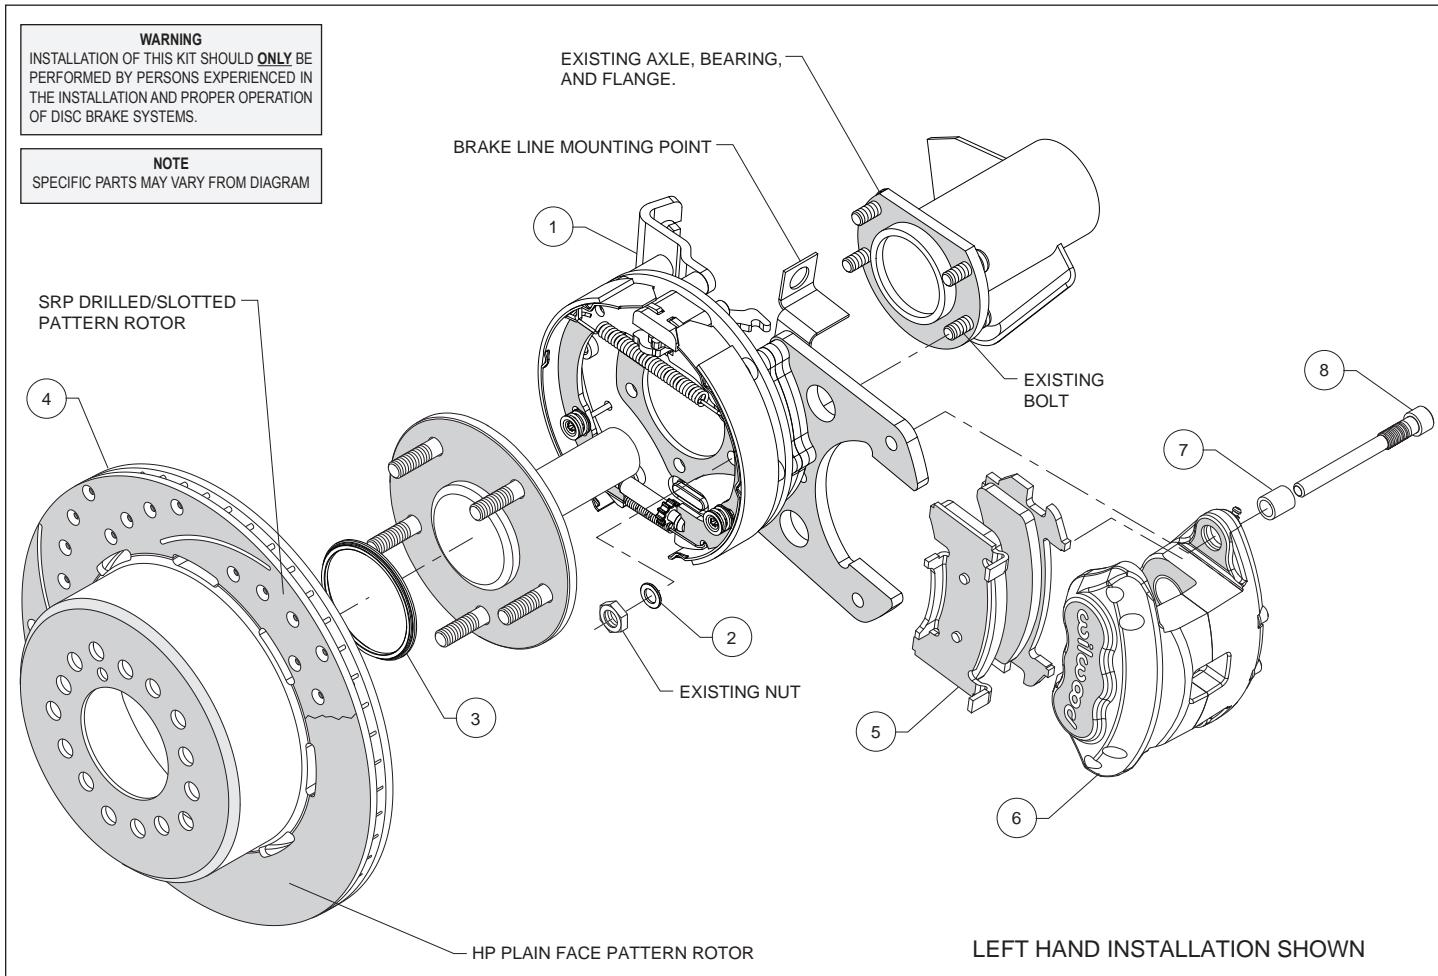

Figure 1. Typical Installation Configuration
**Assembly Instructions** (numbers in parenthesis refer to the parts list, and Figure 1 on the preceding pages): **CAUTION:** All mounting bolts must fully engage threaded holes.
• Orient the bracket assembly (1) as shown in Figure 1, and mount to the axle housing flange using the Original Equipment Manufacturer (OEM) bolts and nuts, while adding washer (2), Figure 1. Ensure that the bracket assembly backing plate fits flush against the axle housing flange. Apply red Loctite® 271 to the OEM bolt threads and torque to OEM specifications.
• Slide the rotor registration adapter (3) onto the axle register on the axle flange with the smaller O.D. facing toward the rotor/hat (4), Photo 1. Align the correct hole pattern in the rotor/hat with the stud pattern on the axle flange and slide into place, Figure 1 and Photo 2. **NOTE:** The rotor/hat must fit flush against the axle
- Install the disc brake pads (5) into the caliper (6) with the friction material facing the rotor, as shown in Figure 1 and Photo 3.
- Install sleeves (7) onto slide pin bolts (8). Apply white lithium grease (available from your local auto parts store) to the slide pins/sleeves, as shown in Photo 4. **Do not apply to threads.** Mount the caliper (6) onto the mounting bracket (1) using slide pin bolts, as shown in Figure 1. Torque to 35 ft-lbs.
**NOTE:** The caliper in this brake kit utilizes a 10mm x 1.50 thread inlet. This kit includes flexline kit P/N 220-12630. Brake fluid hard lines on the vehicle will need to be routed to the supplied line mounting point for the new brake kit, see Figure 1 and Photo 5. Hose kits include hoses, fittings, banjo bolts, etc. all in one package for use with this caliper. **Carefully route hoses to prevent contact with moving suspension, brake or wheel components.** **NOTE:** Wilwood hose kits are designed for use in many different vehicle applications and it is the installer's responsibility to properly route and ensure adequate clearance and retention for brake hose components.